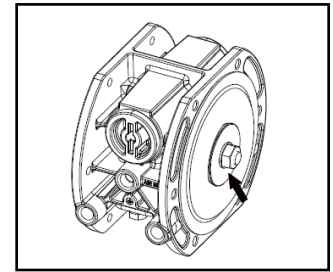

Figure 38
- Remove the nuts on both sides of the center rod (See Figure 38).